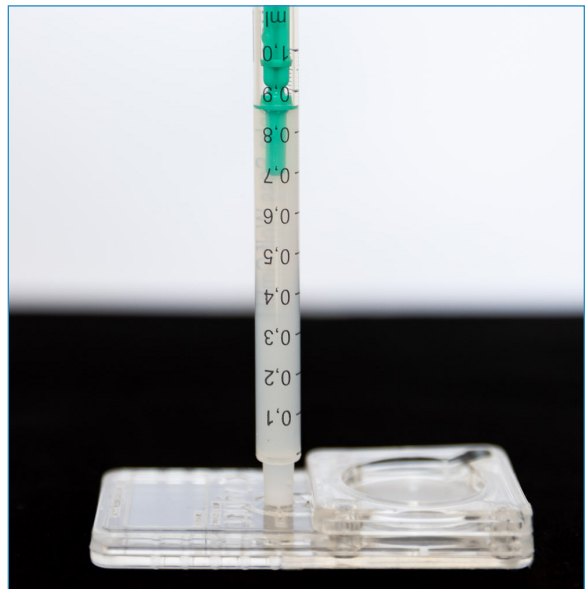

Figure 3. Firmly insert syringe into Inlet Port.
5. Holding the device securely, carefully insert syringe into the device Inlet Port, applying gentle pressure to achieve a firm connection between syringe and device (Figure 3).